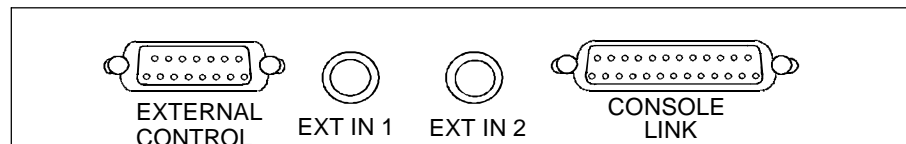
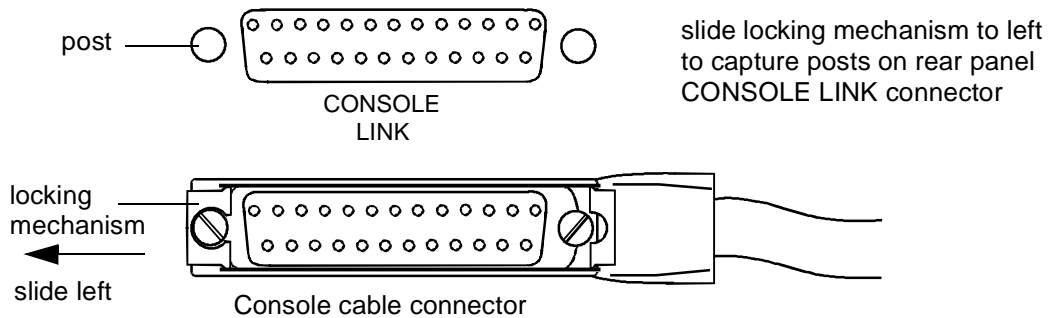

Figure 1.13. Console Rear Panel
Figure 1.14. Locking the Console Cable to the Connector Posts
1. Connect the right angle connector to the “Console LINK” connector located at the rear of the Console (Figure 1.13) with the cable dressed towards the right side of the Console (looking from rear). This allows cable clearance when you open the Console. Then, slide the connector locking mechanism to the left to secure the connector to the Console. Refer to Figure 1.14.